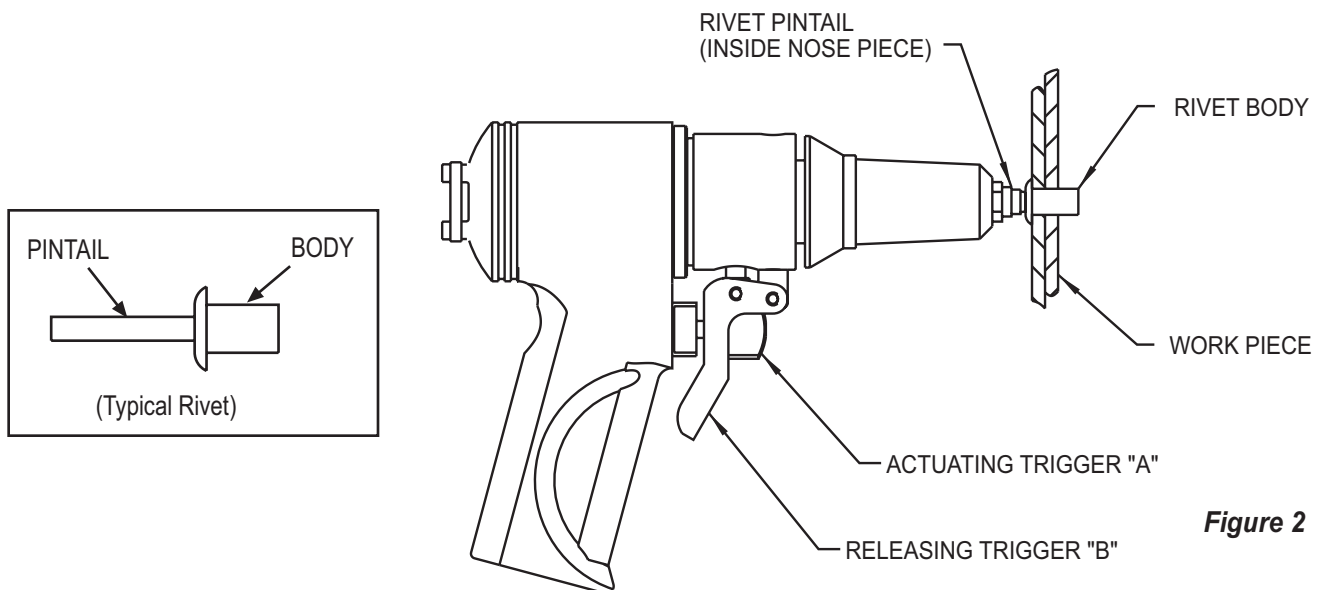

Figure 2
The AK-175 pneumatic riveter installs fasteners by a pull and release system. Squeezing the ACTUATING TRIGGER "A" only (Fig. 2) will actuate the tool. The tool must be actuated when installing fasteners and changing nose pieces. After installing the fastener or changing the NOSE PIECE the tool must be returned to its original position, this releases the pintail if a fastener was installed. To do this point the tool downward and squeeze RELEASING TRIGGER "B" only (Fig. 3). See sections on NOSE PIECE INSTALLATION and FASTENER INSTALLATION for detailed instructions.
3. Hold the tool steady against the work piece and squeeze ACTUATING TRIGGER "A" only, until fastener is installed and rivet pintail is broken* (see fig. 2 below)